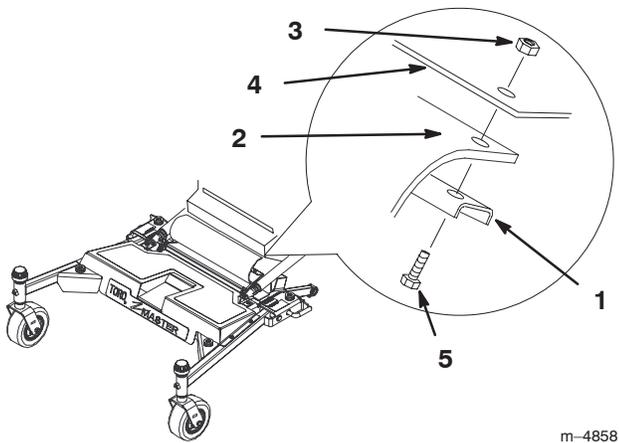

Figure 25
12. Remove the two nuts and bolts that hold the bar for rubber guard. The bar is under the motion control levers. Fold the rubber guard onto the footrest (Fig. 25).